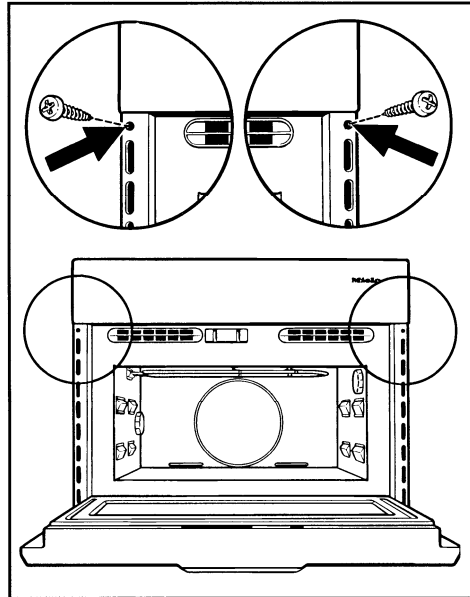

Figure 011-2: Retaining Screws
8. Open the oven door and attach the appliance to the cabinets using two retaining screws at the sides of the frame, as shown in Figure 011-2.
3. Remove the screws securing the appliance to the cabinet (see Figure 011-2).